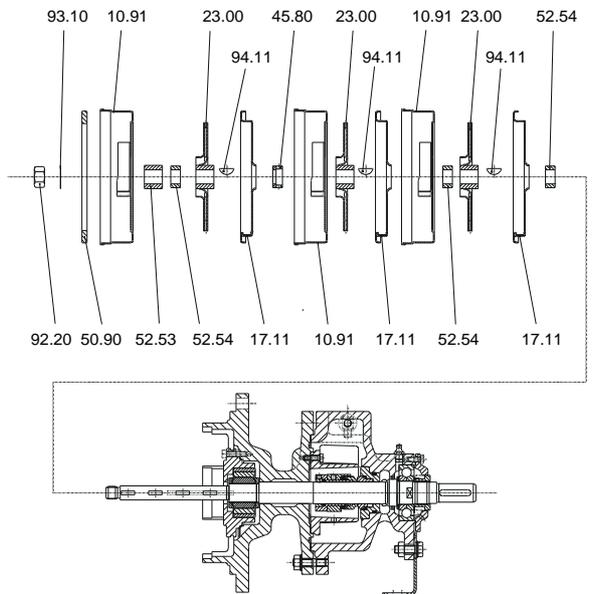

Fig. 2
4. Dismantle intermediate ring 50.90 and intermediate piece 10.91. If restricted, these parts can remain in the housing (fig. 2).
5. Bend up tab washer 93.10 and unscrew impeller nut 92.20 (fig. 2).
6. Remove lock washer 93.10, distance pieces 52.53 and 52.54, impeller 23.00 and spring washer 94.11 (fig. 2).
17.11 and third intermediate piece 10.91, then distance piece 52.54. Finally remove third impeller 23.00, third spring washer 94.11, third intermediate piece 17.11 and distance piece 52.54 (fig. 2).